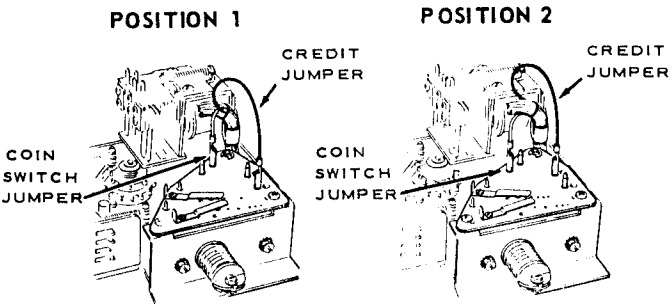

Figure 15. Coin Switch and Credit Jumpers.
1. Connect the Single Credit Position Jumper (grey) as required, see *Figure 15*.
2. Connect the Coin Switch Jumper (red-white) as required, see *Figure 15*.